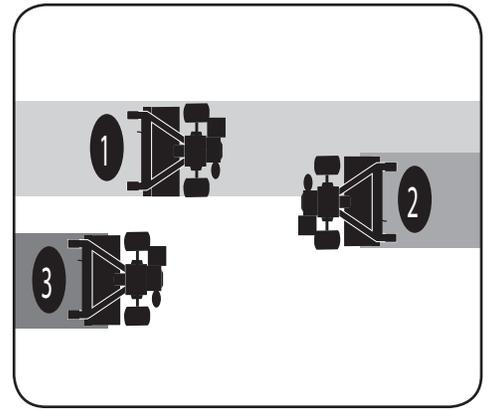

Figure 4-9
- If the garden size will not permit lengthwise and then crosswise tilling, then overlap the first passes by one-half a tiller width, followed by successive passes at one-quarter width. See Figure 4-9.